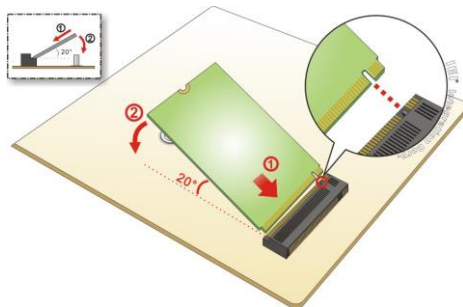

Figure 3-4: Inserting the M.2 Module into the Slot at an Angle
Step 3: Line up the notch on the module with the notch on the slot. Slide the M.2 module into the socket at an angle of about 20° (Figure 3-4).